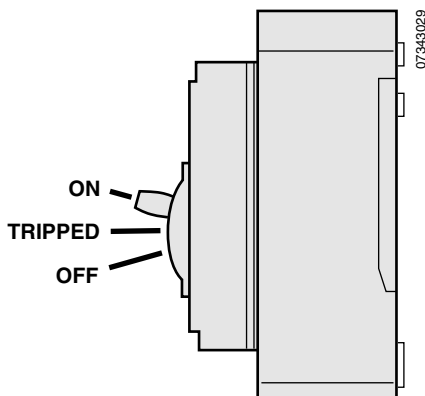

Figure 2: Handle Position
The PowerPact Q-frame circuit breaker handle can assume any of three positions, ON (I), tripped, or OFF (O) as shown in Figure 2.